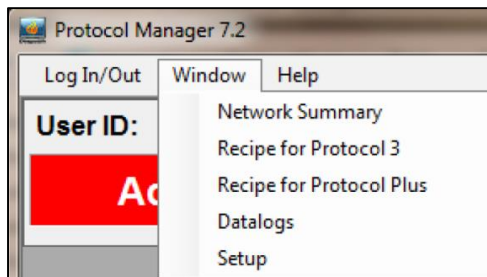
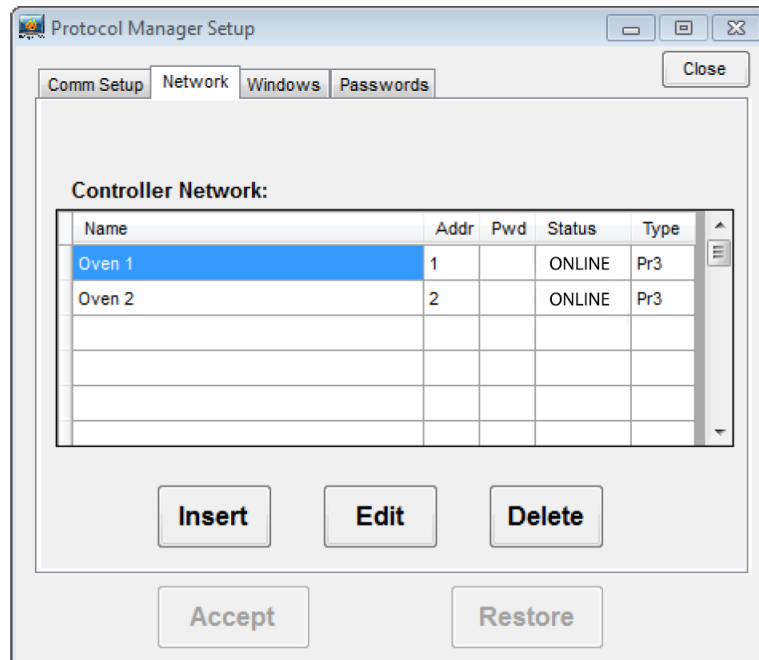
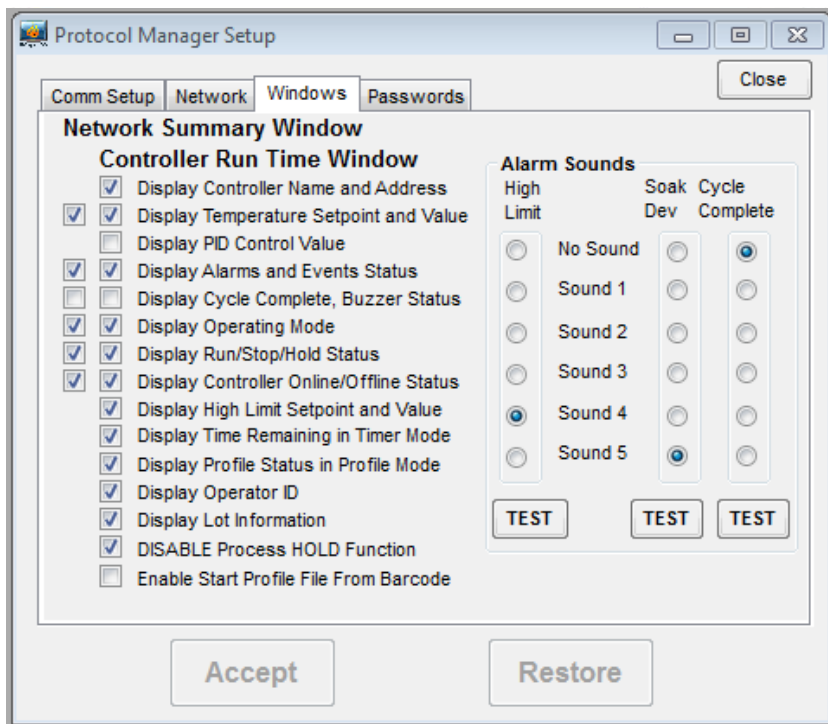

Figure 12. Setup Pull Down Menu.
Figure 13. Software Setup Window.
Figure 17. Windows Tab.
1. Click **Window** (above the User ID) and then **Setup** (Figure 12) to display the Protocol Manager Setup (Figure 13).
1. Click **Window** (above the User ID) and then **Setup** (Figure 12) to display the Protocol Manager Setup Window (Figure 15).
1. Click **Window** (above the User ID) and then **Setup** (Figure 12) to display the Software Setup Window. Press **Windows** to display the **Network Summary Window /Controller Run Time Window** (Figure 17).
1. Click **Window** (above the User ID) and then **Setup** (Figure 12) to display the Software Setup Window. Press **Windows** to display the **Passwords** Tab Dialogue Box (Figure 18).
Set the **NetSummary** parameters by selecting among the check boxes in the **Windows** Tab (Section 3.4.4, Figure 17). Double-click on a Controller ID in the **Name** column to display the associated **Controller Run Time** window (Figure 20).